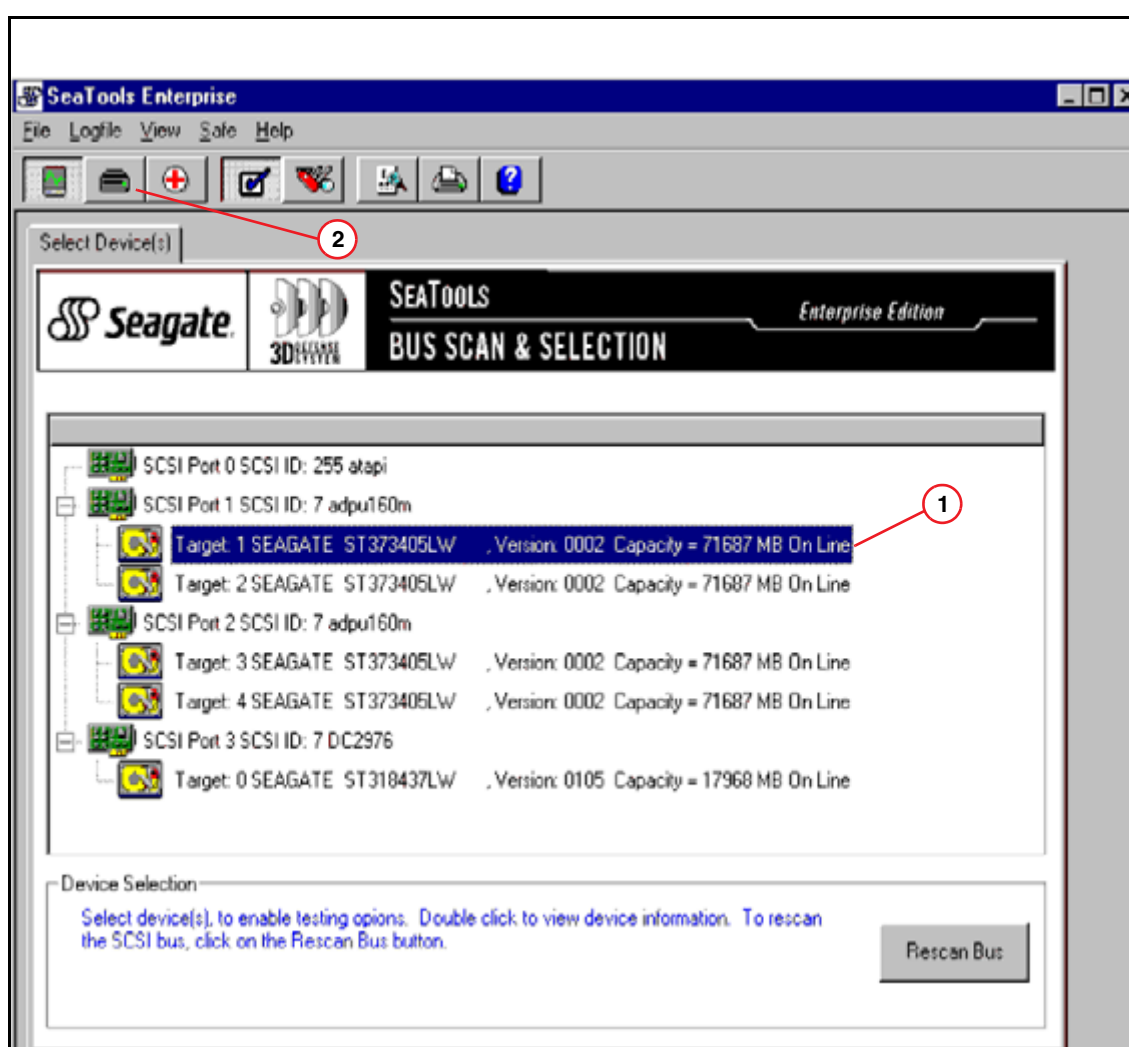

Fig. 58: Disk test
The example in (1/ Fig. 58 / p. 91) shows the first raw data disks of the IRS AQP.
3. Open the new **Option** window by selecting the **Disk Test** button (2/ Fig. 58 / p. 91).